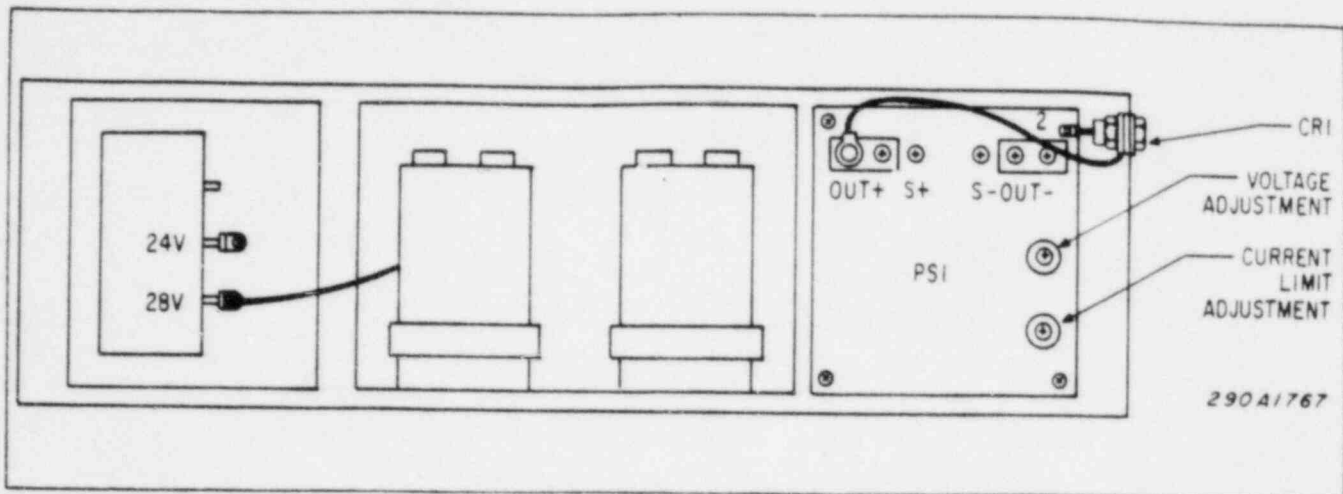

Figure 6-4. Power Supply Adjustment Locations.
- D. Connect the negative lead of a voltmeter to the battery post with the black wires and the positive lead to the battery post with the red wires. Turn on power to the Control Unit. Set the VOLTAGE ADJUSTMENT control (see figure 6-4) for 27.8Vdc.
- E. Disconnect voltmeter. Reconnect the fused link. Adjust the CURRENT LIMIT control (see figure 6-4) for a reading of 6 amperes on the front panel meter. NOTE: If the batteries are at full charge,